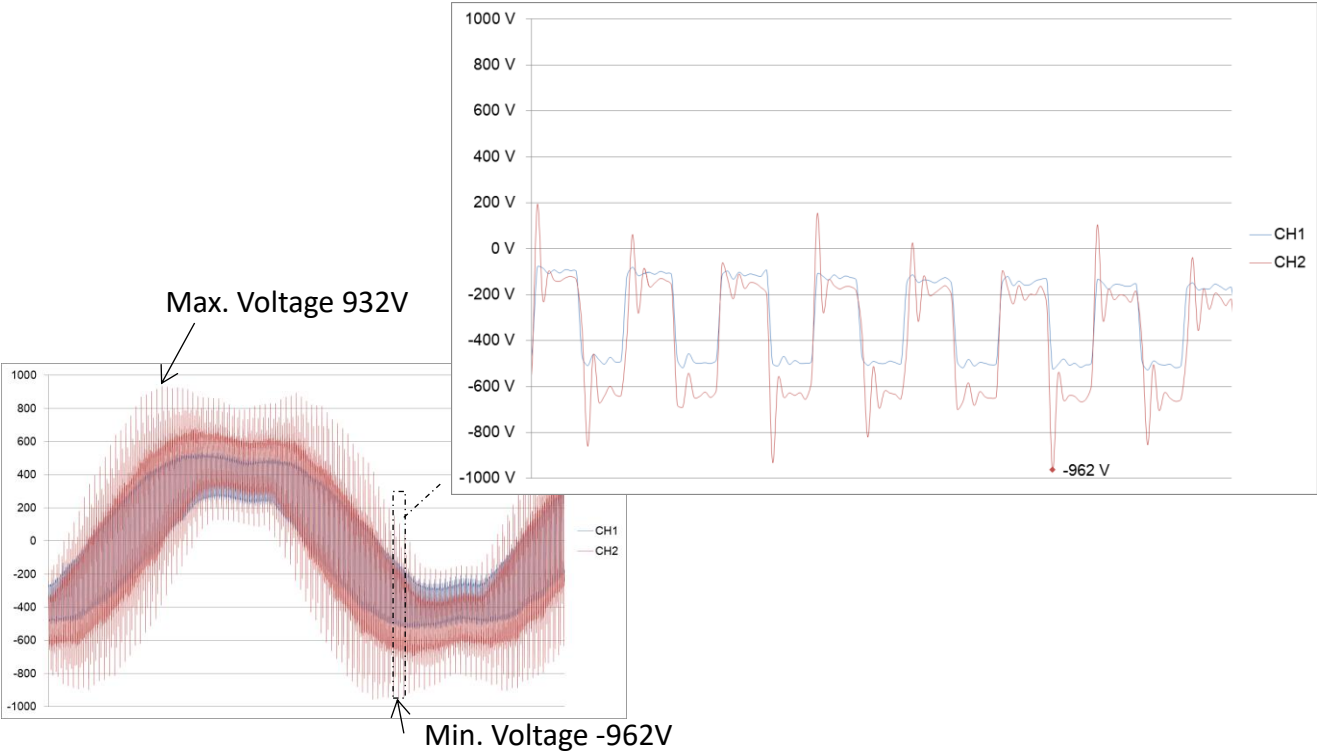

Figure 3.4.10 A captured diagram of voltage waveform.
- (3) For safety reasons, the lap joints of the probes must be covered with insulating materials, such as insulating paper, electrical tape, etc.
- (4) After the connection is completed, power on and enable the motor (no need to rotate).
- (5) Use an oscilloscope to observe the voltage waveform. Here is an example of the voltage waveform (as shown in the Figure 3.4.10).
- (6) Screenshot of output voltage waveform. It is necessary to capture the peak voltage difference and include at least 5 complete waveforms (as shown in Figure 3.4.10)
- (7) Save the voltage waveform data as a CSV file, which needs to include the time and voltage value data based on synchronization of two measurement points.
- (8) If the drive motor has different PWM modulation frequencies, the PWM modulation frequency of the drive needs to be changed. The modulation frequencies which may be used should all be measured and recorded individually.
- (9) Repeat the above steps to measure the neutral point to ground voltage in sequence.
※When capturing the voltage waveform, it should be noted that the voltage may change periodically (as shown in Figure 3.4.10). Please get the peak voltage.